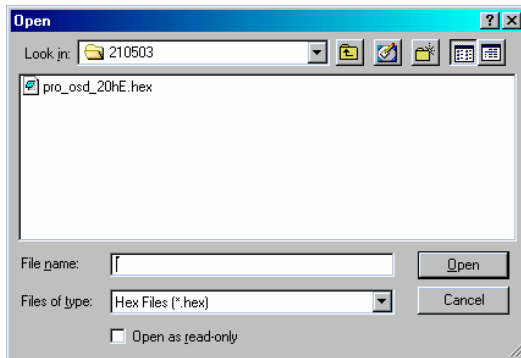

Figure 30 Open box
- From the **File** menu, choose **Open**. The **Open** box appears. See Figure 30.